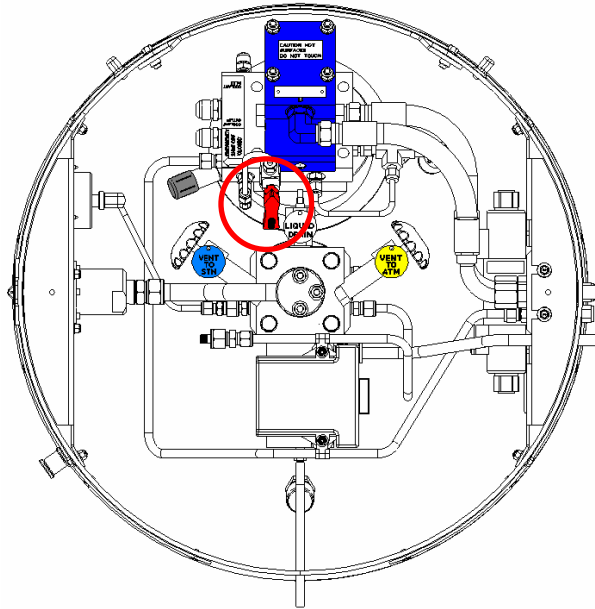

Figure 1. Location of LNG Pump Shut Off Valves. Diagram shows the ON (flowing) position.
4. Turn the LNG pump(s) shut off valve(s) to the CLOSED position, see figure 1.